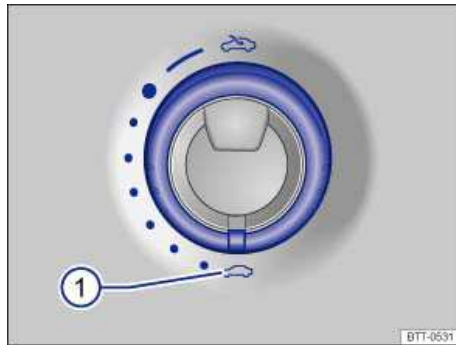

Fig. 32 In the headliner: Sunroof rotary switch.
- The switch must be rotated to the “Closed” position ⇒ fig. 32 \(1\).